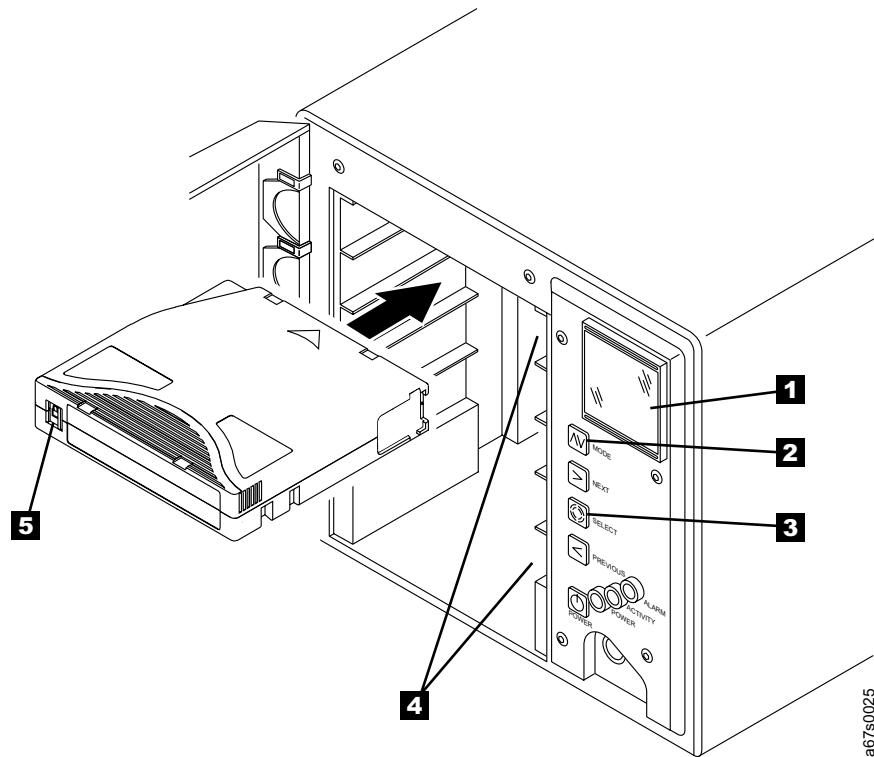

Figure 11. Inserting a cartridge into the 3581 Tape Autoloader
4. Ensure that the write-protect switch (see **5** in Figure 11 on page 27) is properly set (see “Setting the Write-Protect Switch” on page 39).
5. Grasp the cartridge so that the write-protect switch faces you (see **5** in Figure 11).